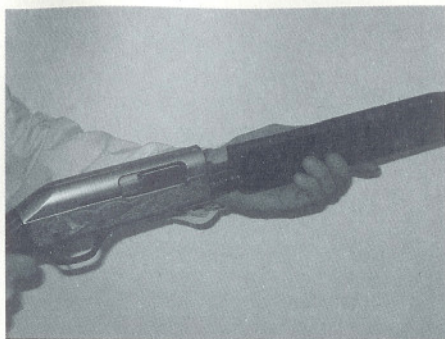

Fig. 1
1. To assemble, unscrew the forend cap from the stock-receiver-forend group and slide off the forend **(FIG.1)**